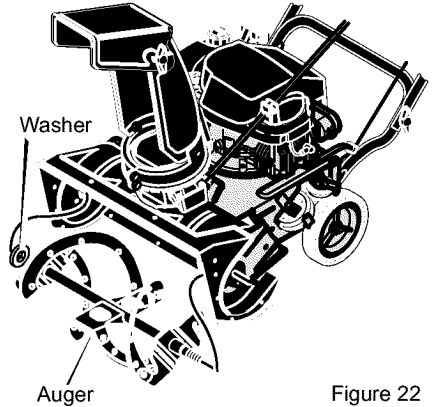

Figure 22
8. Slide the **auger** out of the right side of the auger housing (See Figure 22).